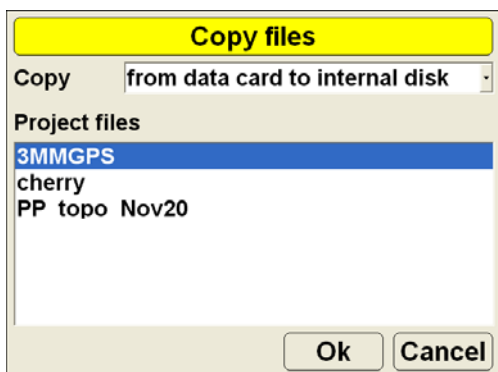

Figure 7-10. Copy File
4. Select “from data card to internal disk” and the file to copy from the *Project files* list (Figure 7-10). Tap **OK**.